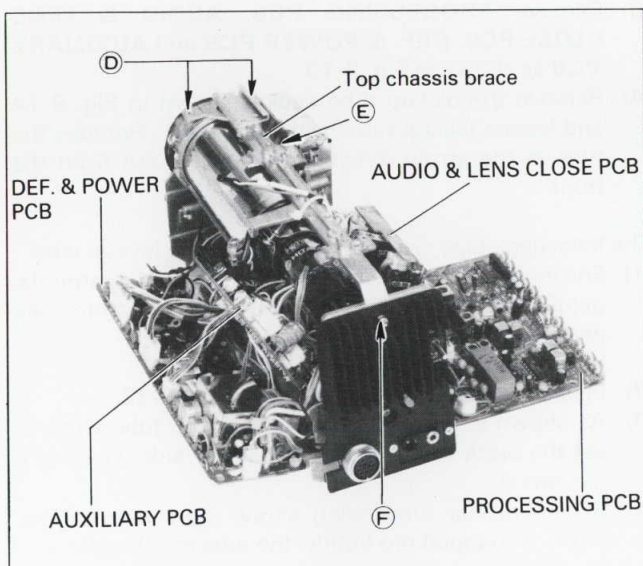

Fig. 9-13 Removal of the pickup tube (2)
- (3) Remove **PROCESSING PCB**, **AUDIO & LENS CLOSE PCB**, **DEF. & POWER PCB** and **AUXILIARY PCB** as shown in **Fig. 9-13**.
- (3) Remove the top chassis brace by unscrewing four screws **(D)**, **(E)** and **(F)** shown in **Fig. 9-13**.